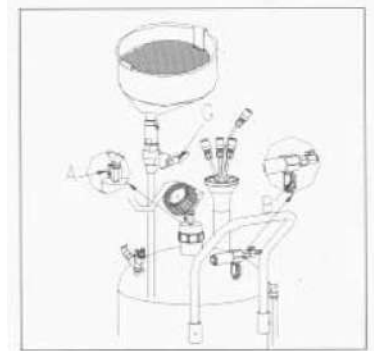

Fig. 4
- a. Open vacuum gauge valve A and venturi assembly B and valve C. (See Fig. 4)